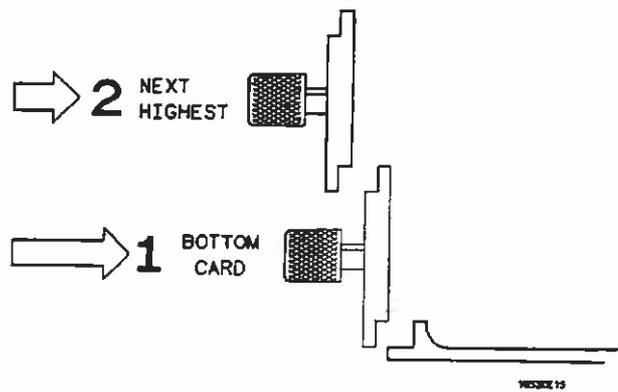

Figure A-3. Endplate Overlap (Installing)
h. Repeat for all cards and filler panels in a bottom to top order. See figure A-3.